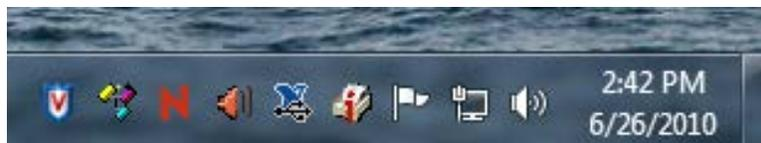

Figure 11. LIMS Uploader System Tray Icon (second from left).
3. Close the upload application by clicking the red X in the upper right-hand corner, but be advised that the true application close is on the Windows task bar in the lower right corner of the desktop. Right-click the LIMS loader icon and click Exit to fully close the uploader (*Figure 11*).